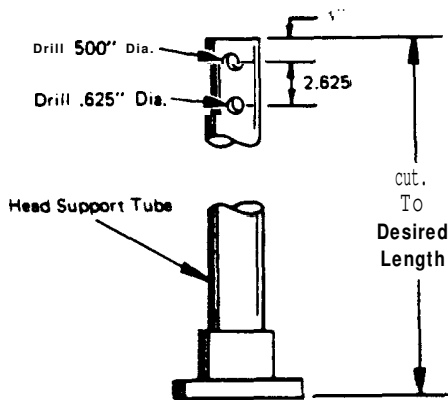

FIGURE 3
1. Determine proper length of head support tube (item 15) and cut it to proper length.
2. After the head support tube has been cut to proper length, drill two holes in the upper end as shown in Figure 3. NOTE that the holes must be in line with the two holes located on the bottom of the tube.